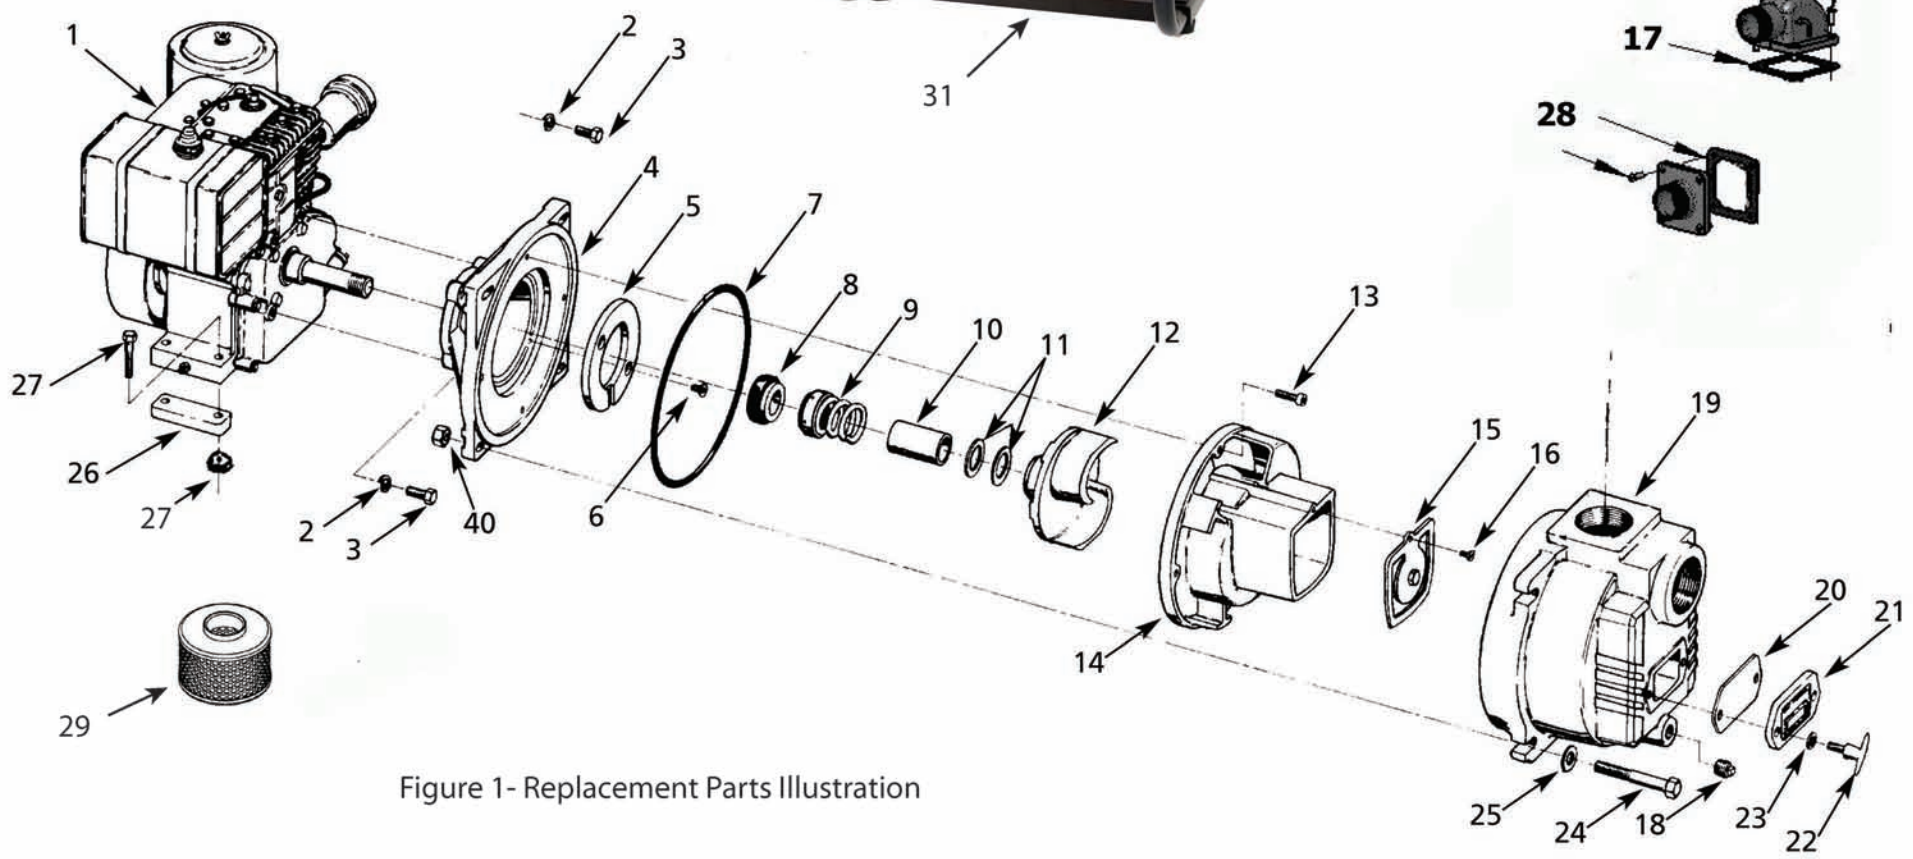

Figure 1- Replacement Parts Illustration
**MECHANICAL SEAL REPLACEMENT** Refer to figures 1 and 2.
**NOTE:** When the clearance between the impeller and the volute/wearplate exceeds 1/16" at the face of the impeller or 1/8" on the outside diameter of the impeller, it may be necessary to take corrective action. The increased clearance can cause lengthened priming and decreased capacity to your unit. If performance is satisfactory for your application, it is recommended that no corrective maintenance be performed regardless of what clearances on your unit may have developed. This is because increased clearances in themselves are not generally harmful to your pump. Normally, new pump clearances can be restored by simply shimming behind the impeller. (Add shim washers Ref. No. 11). If the impeller is badly worn, it is recommended that the impeller be replaced. This is usually all that is required since only on abrasive surfaces does the cast iron wearplate show deterioration. Occasionally a stone or hard object might get caught in the impeller and cause damage to the volute/cutwater. In these cases follow the instructions below for replacement and refer to Figure 1.